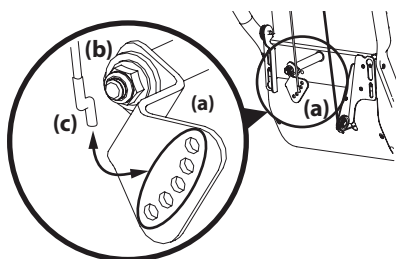

Figure 2-42
- Lift the shift cable index bracket (a) up to create slack in the cable (b). See Figure 2-42.